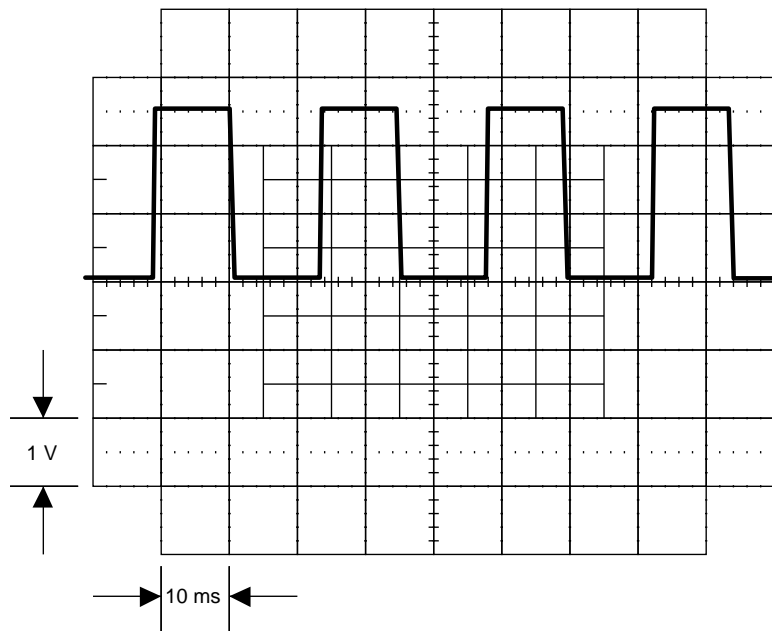

Figure 5-25. Waveform at TP6
9. Check CH1 SHUNT. Connect an oscilloscope to TP6 (common to TP3). Set the 5700A to 6.5V dc, operate, and set the oscilloscope to 2V/div at 2 ms/div. The oscilloscope should display a signal similar to Figure 5-25. If a failure is detected, check Q35 and its associated components.